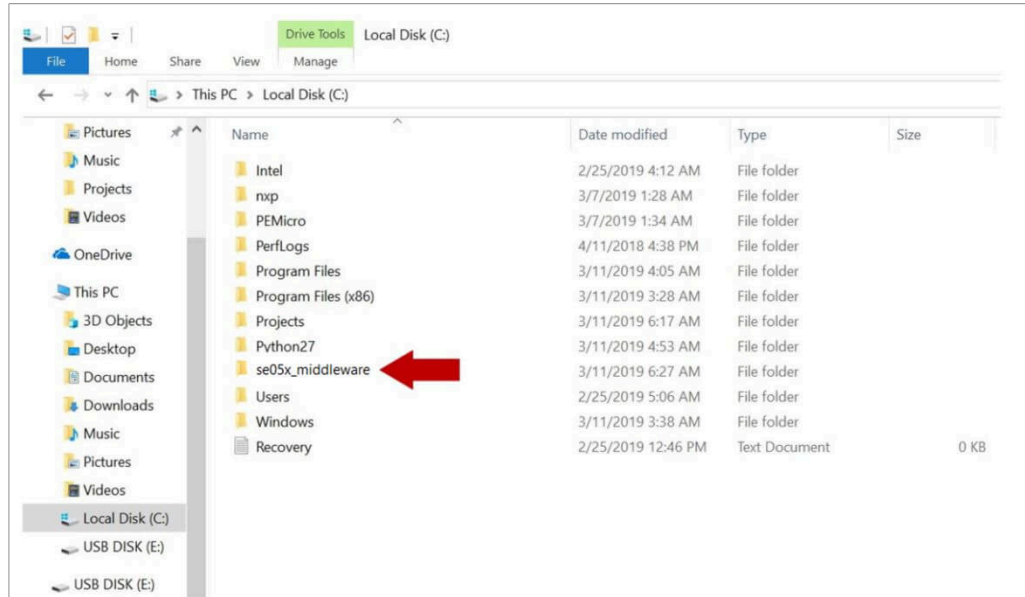

Figure 29. Create se05x_middleware folder
2. Create a folder called **se05x_middleware** in C: directory as shown in Figure 29: